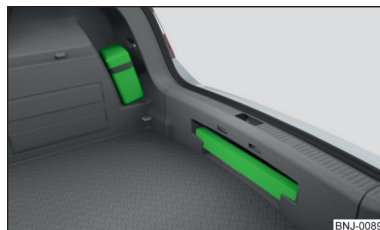
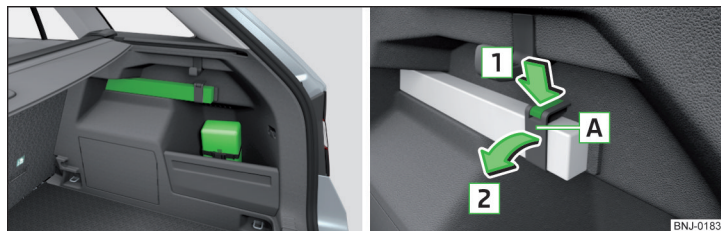

Fig. 255
Fig. 256 Placing the first aid kit and the warning triangle - variant 2 /
The first-aid kit can be attached to the right-hand side of the boot using a strap » Fig. 255 or » Fig. 256.
» Fig. 255.
The first-aid kit can be attached to the right-hand side of the boot using a strap » Fig. 256.
- › To **release**, press the clasp on the strap in the direction of arrow **1** and fold open the strap **A** in the direction of arrow **2** » Fig. 256.